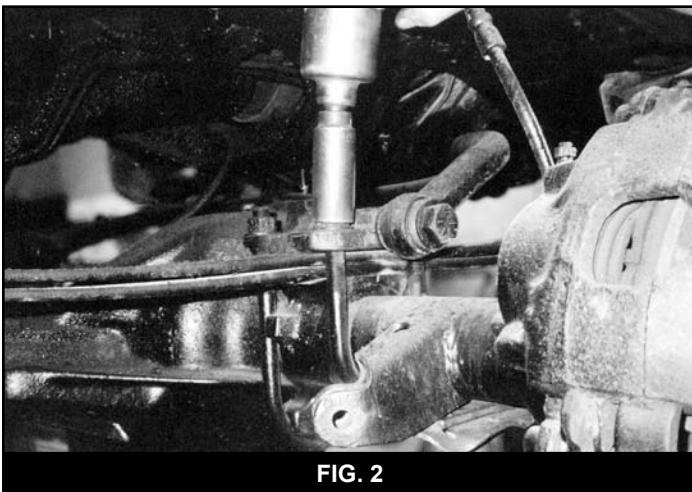
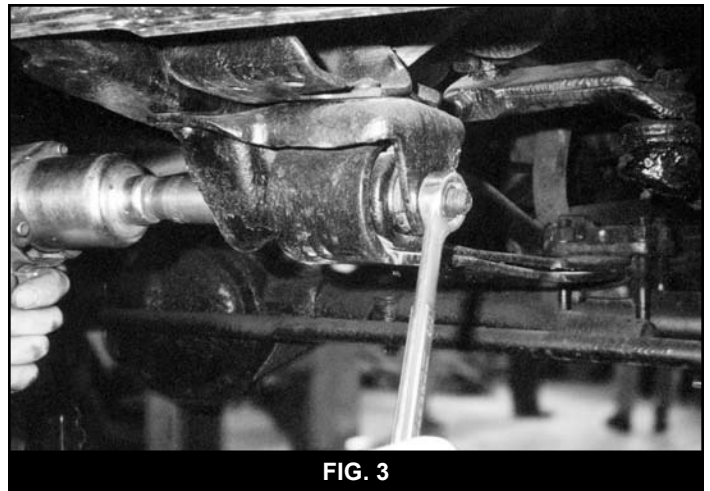

FIG. 2
FIG. 3
6. Remove front spring to axle u-bolts. (Fig. 2) Remove spring to front hanger bolts, and shackle bolts. (Fig. 3) Save all hardware for reinstall. Remove front springs. 6" and up lift kits, remove sway bar to frame bushing bolts, save all hardware for reinstall. Support sway bar with strap to frame, or with jack stand.